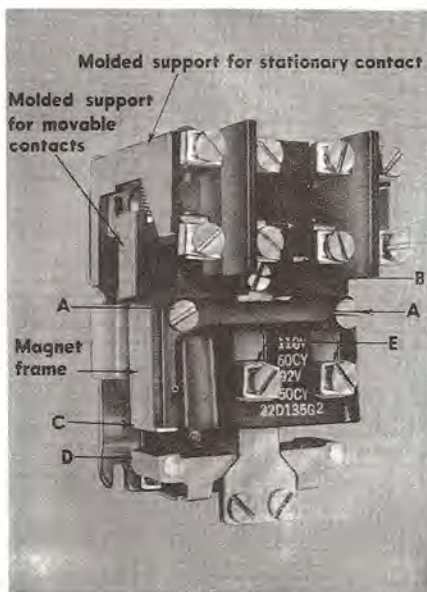
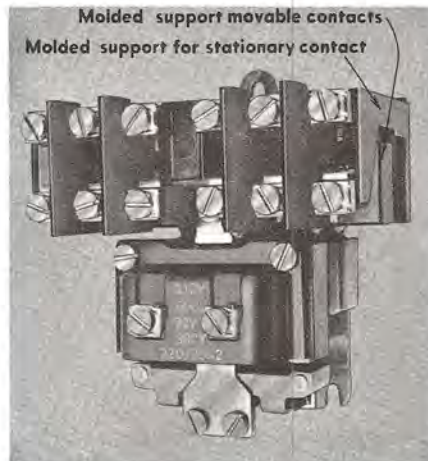

Fig. 1. Typical CR2810 machine tool relay with four sets of contacts
Fig. 2. Typical CR2810 machine tool relay with six sets of contacts
support to the base plate with the four screws tightened slightly. Place a $\frac{1}{8}$ -inch spacer in the armature gap (C), Fig. 1. Push up on the movable armature (D), loosen the screws holding the contact support to the base plate and adjust the stationary contact support so that the normally open contacts just touch the stationary contacts. Then tighten the screws.
On the contactors which have all normally closed contacts, insert a 9/64-inch spacer in the armature gap (C), Fig. 1, and adjust the contact support so that the contact faces just break contact.
The CR2810-A14 relay is a sturdy device, with four, six, eight or twelve sets of contacts for a-c circuits of 10 amperes or less. A typical four-pole relay is shown in Fig. 1, a six-pole relay in Fig. 2, and a twelve-pole relay in Fig. 4. The CR2811-A210 to -A218 relay is an enclosed CR2810-A14 magnetic relay with either four, six or eight sets of contacts. The twelve-pole relay is available only in the open form.
2. Clean the magnet surfaces (C), Fig. 1.
The sealing surfaces (C), Fig. 1, on the magnet frame and armature should
Take out screws (A) and (B), Fig. 1, remove and disassemble complete magnet assembly. To remove, if space is limited below the device, hold movable contact support all the way in, and tilt bottom of magnet assembly out. When reassembling make certain that the tapped hole for screw (B) is to the rear. When replacing, tighten the screws securely.
To remove the inner (or all) contacts of a four- or six-pole contactor, remove screws (A), Fig. 1, draw the magnet assembly and movable contact assembly from the contactor. To remove open contacts, grasp the movable contact assembly with the thumb and forefinger as shown in Fig. 3. Rotate toward the center of the movable contact support, depress and pull out through the rectangular opening in the front side of the movable contact support. Closed contacts may be removed directly from the stationary contact supports with a sideways motion.
To remove the inner (or all) contacts of the lower head of an eight-pole or twelve-pole contactor, remove the screw which holds the upper movable contact assembly to the push rod and remove the two screws (A), Fig. 1. Withdraw the complete magnet assembly, including the lower movable contact assembly, from the contactor. Remove the movable contacts as described above.